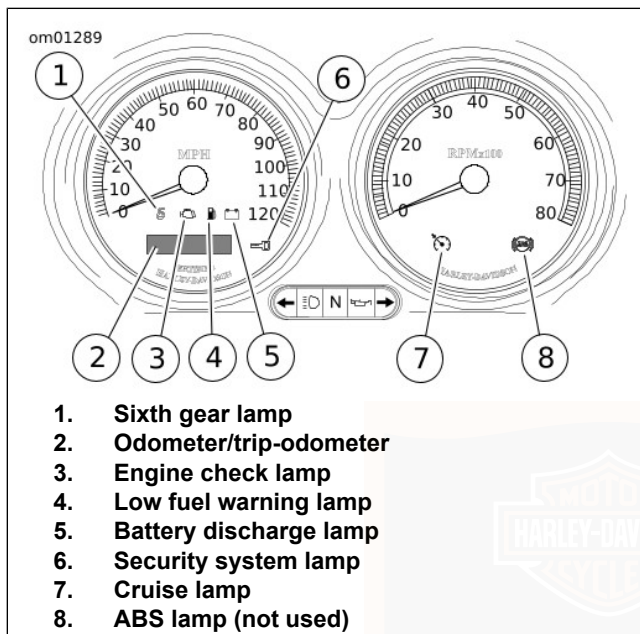

Figure 7. Indicator Lamps: Tri Glide Models
See Figure 7. The speedometer registers miles per hour of forward speed. The speedometer has a single display for the following selectable functions:
1. See Figure 7. Pressing the function switch with the ignition switch in any position will activate the odometer reading. Mileage may be checked without unlocking ignition switch. Press and release function switch once to view odometer.
See Figure 7. The engine check lamp is located near the lower left side of the speedometer face. Its purpose is to
See Figure 7. The low fuel lamp is located in the speedometer face, lower center by check engine lamp. The low fuel lamp illuminates to indicate that you have approximately 3.8 L (1 USgal) of gasoline left in the tank. The low fuel lamp color is amber.
See Figure 7. The red battery charging lamp indicates either overcharging or undercharging of the battery. Refer to MAINTENANCE AND LUBRICATION > BATTERY: GENERAL (Page 157).
See Figure 7. A green lamp on the tachometer face indicates the cruise control is SET or NOT SET. An orange lamp on the cruise control switch indicates the cruise control is ON or OFF. Refer to CONTROLS AND INDICATORS > CRUISE CONTROL OPERATION (Page 42).
See Figure 7. The amber sixth gear lamp on the speedometer face indicates when the transmission is in sixth gear.
See Figure 7. The red security system lamp on the speedometer face indicates when the security system is armed. Refer to HANDS-FREE SECURITY MODULE > HARLEY-DAVIDSON SMART SECURITY SYSTEM (Page 97).
1. See Figure 7. Turn the cruise control switch to the ON position. The orange icon on the cruise gauge face will light when activated.